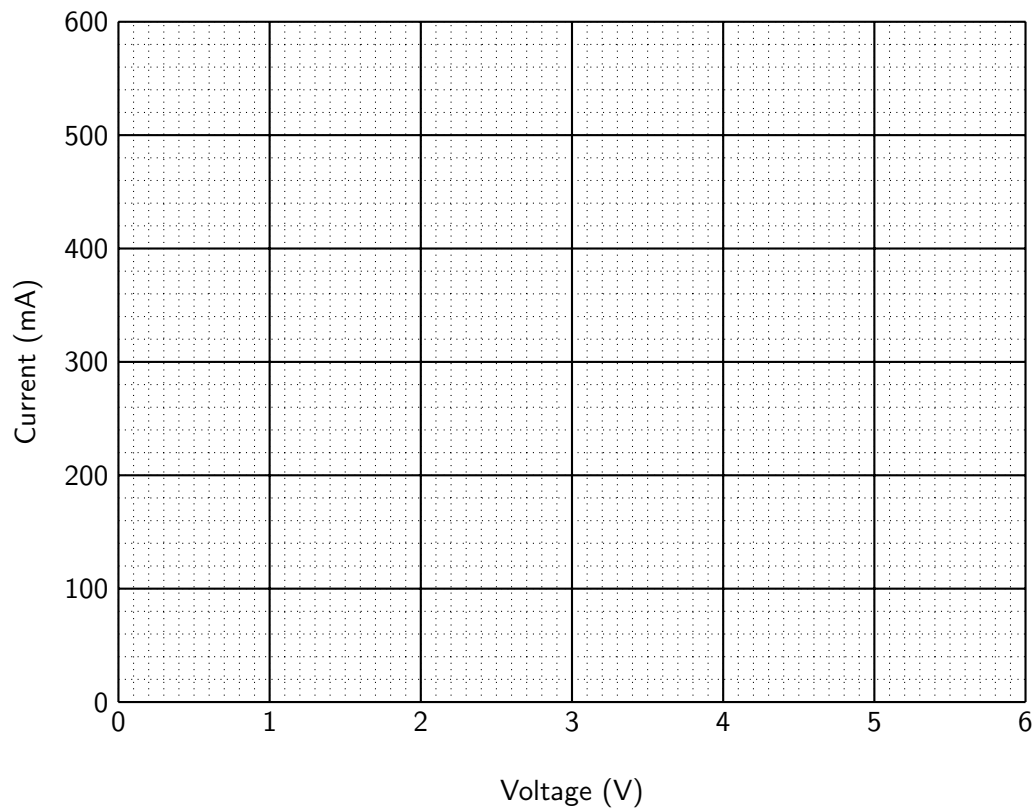

Figure 6: Graph paper for 5 V bulb I vs V measurements.
- (c) Now rig up the circuit of Figure 5B, and plot a set of measurements of current versus voltage on the custom graph paper of Figure 6.